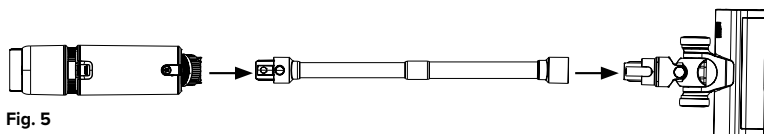

Fig. 5
STEP 2: Attach the floor brush by aligning the pins on the floor brush with the bottom of the tube. Carefully push together to secure into place. To release the floor brush, press the floor brush release button and pull it away from the tube. See 'Fig. 5'.